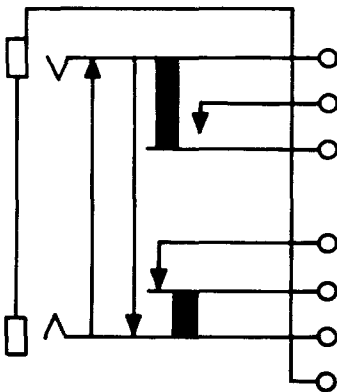

Fig. 9—440B Jack
- (b) **440B:** The 440B jack (Fig. 9) is arranged to be used with the 305-type and 347-type plug. The crimps of the tip springs are gold-plated and the contact springs are equipped with the No. 2 metal contact.